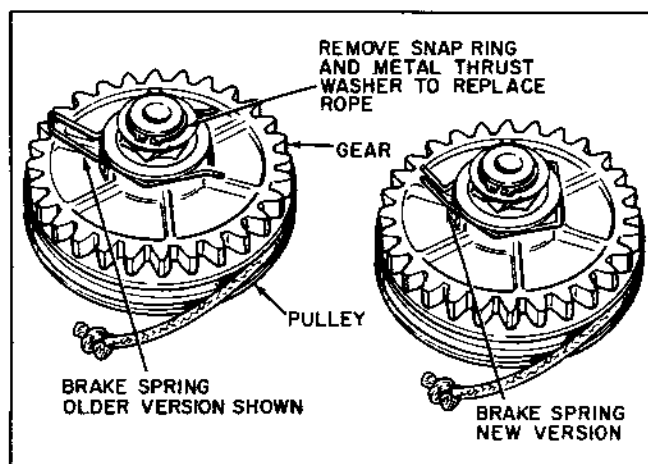

Figure 1-15
R. THE BRAKE SPRING - should be removed and replaced if it does not cause immediate gear mesh with the flywheel teeth on the initial pull of the starter rope. Check spring for operative condition, it must cling snugly into groove receptacle provided in the gear. Figure 1-15. The GEAR and PULLEY is disassembled by removing the snap ring on the brake and gear side of the pulley. Note location of steel washer. Figure 1-15 and 1-18. The gear can now be replaced and the rope end is easily accessible at this point.